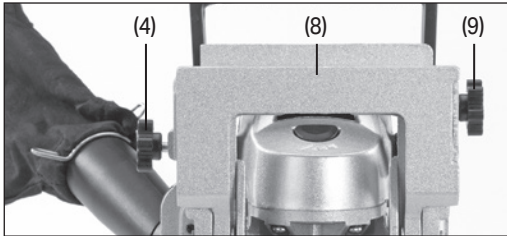

Fig.3
- Turn the depth selector knob (2) until the required setting aligns with the arrow (2.1).
6.3 Height/Angle Adjustment (Fig.3)